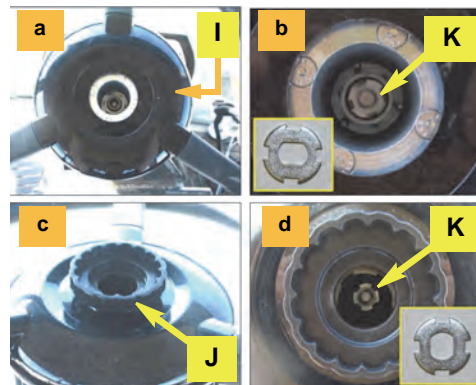

Figure 5a (a-d): Column telescoping actuator installation
- The steering wheel center cover **I** over the steering wheel hub (Figure 5a-a).